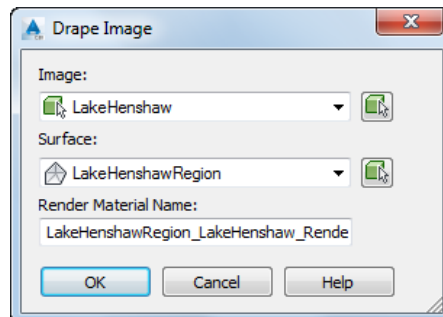

Figure 3-80 The Drape Image dialog box
2. In this tab, choose the **Drape Image** tool from the **Surface Tools** panel; the **Drape Image** dialog box is displayed, as shown in Figure 3-80. Accept the default values in the dialog box and choose the **OK** button; the dialog box is closed and the image is draped over the surface.